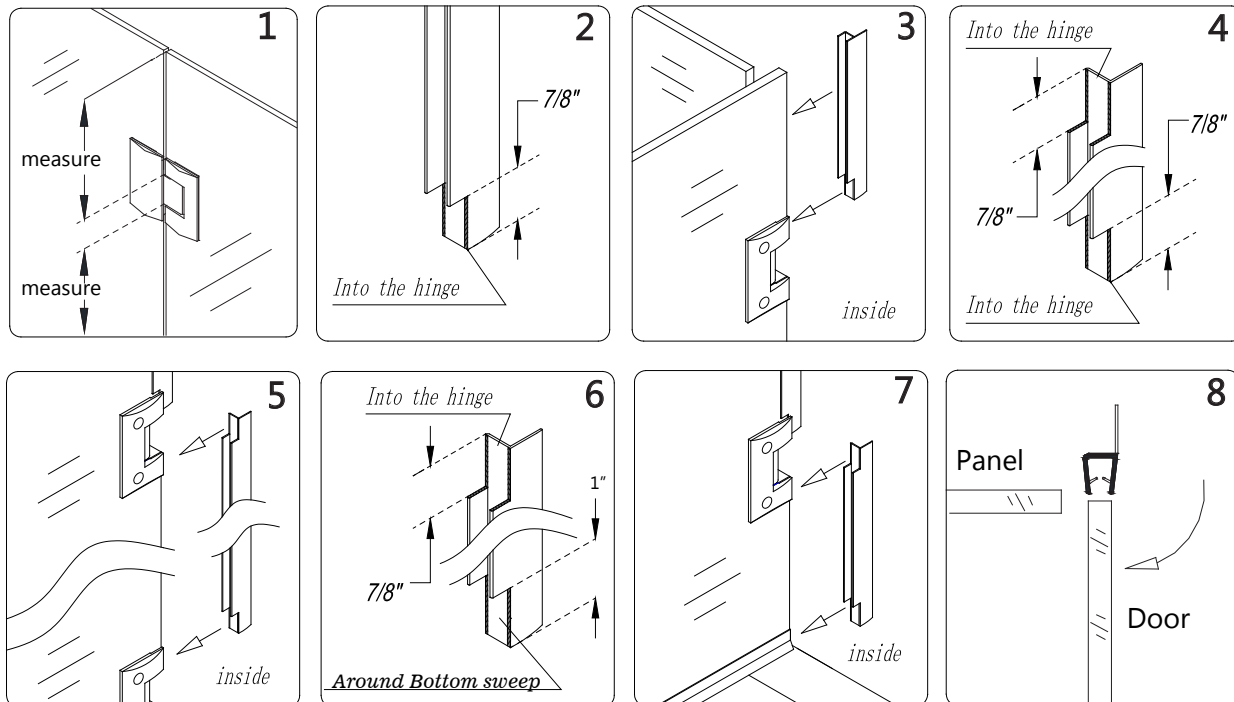

**Fig 27**
**NOTE:** Make sure the **Bottom Anti-Water Strip (#07)** is flush to the vertical edge of the handle side of the **Door Glass (#01)**. (**Fig 27**)